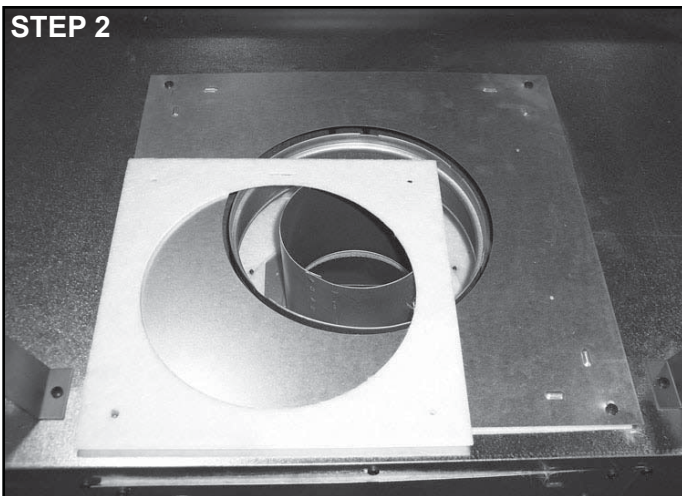

Figure 9.5 Remove Gasket
- Remove the gasket and set aside. See Figure 9.5.